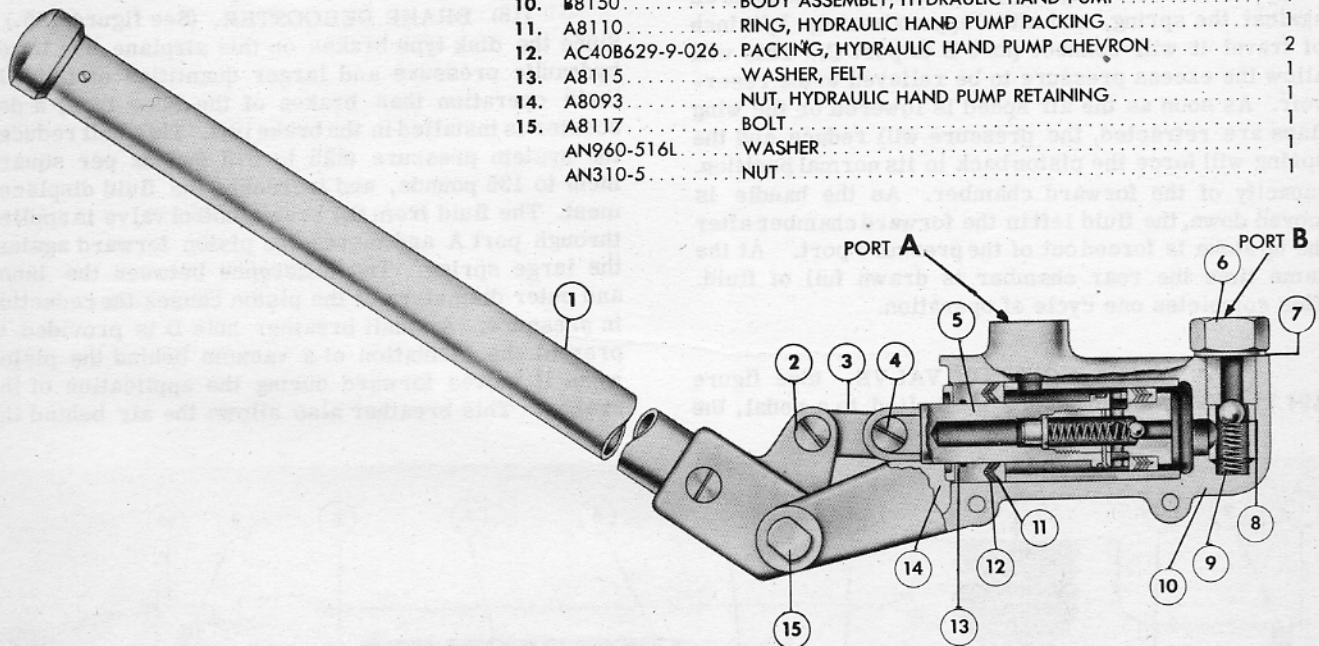

Figure 192 - HYDRAULIC HAND PUMP
(15) HYDRAULIC HAND PUMP. (See figure 192.) - The hand pump is mounted just aft of the pilot's compartment rear bulkhead, with the handle extending forward into the pilot's compartment along the left side of the seat. The pump has an intake port at its aft end and a pressure port at its forward end. Assuming the handle to be in the UP position, the chamber forward of the piston head to be full of fluid, the operation is as follows: As the handle moves down, the chamber aft of the piston is drawn full of fluid, and the fluid in the chamber on the forward side of the piston will be forced out of the pressure port. The maximum